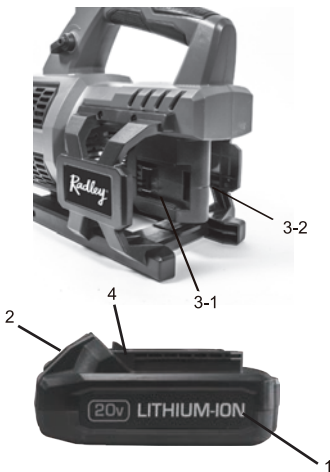

Fig. 4
1. Remove the discharged battery (1) from the axial fan blower by pressing downward on the battery release button (2) and sliding the battery backward until it is removed from the axial fan blower port (3-1 & 3-2) (Fig. 4).
2. Slide the fully charged battery onto the matching keys (4) in the axial fan blower port (3-1 & 3-2) where the discharged battery has been removed.